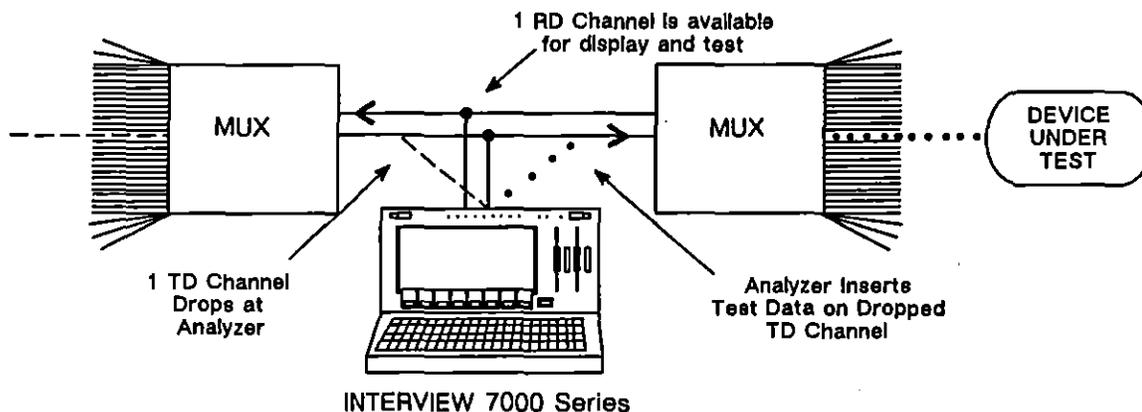

Figure 53-17 The INTERVIEW 7000 Series in drop-and-insert mode.
2. *Drop-and-insert mode.* This type of transmission (illustrated in Figure 53-17) is useful for testing a single channel over an active G.703 circuit. If the user selects drop-and-insert mode, the INTERVIEW receives all 32 channels in both directions (left to right *and* right to left in Figure 53-17). The transmissions on 32 of the left-to-right channels are passed through outbound. The remaining channel is terminated, and higher-layer test data is inserted into the corresponding outbound channel. All the while, G.703 protocol is maintained at the physical level. The INTERVIEW recalculates the correct CRC for the multiframe. Drop-and-insert mode may be used in either direction, towards DTE or DCE. Statistics are maintained on the selected line. Extra bits, national bits, international bits, and alarms are passed through without change.
The INTERVIEW should be set up to *bridge* the data moving right-to-left in Figure 53-17. See the discussion of `BRIDGED` as a Termination option in Section 53.5(D).